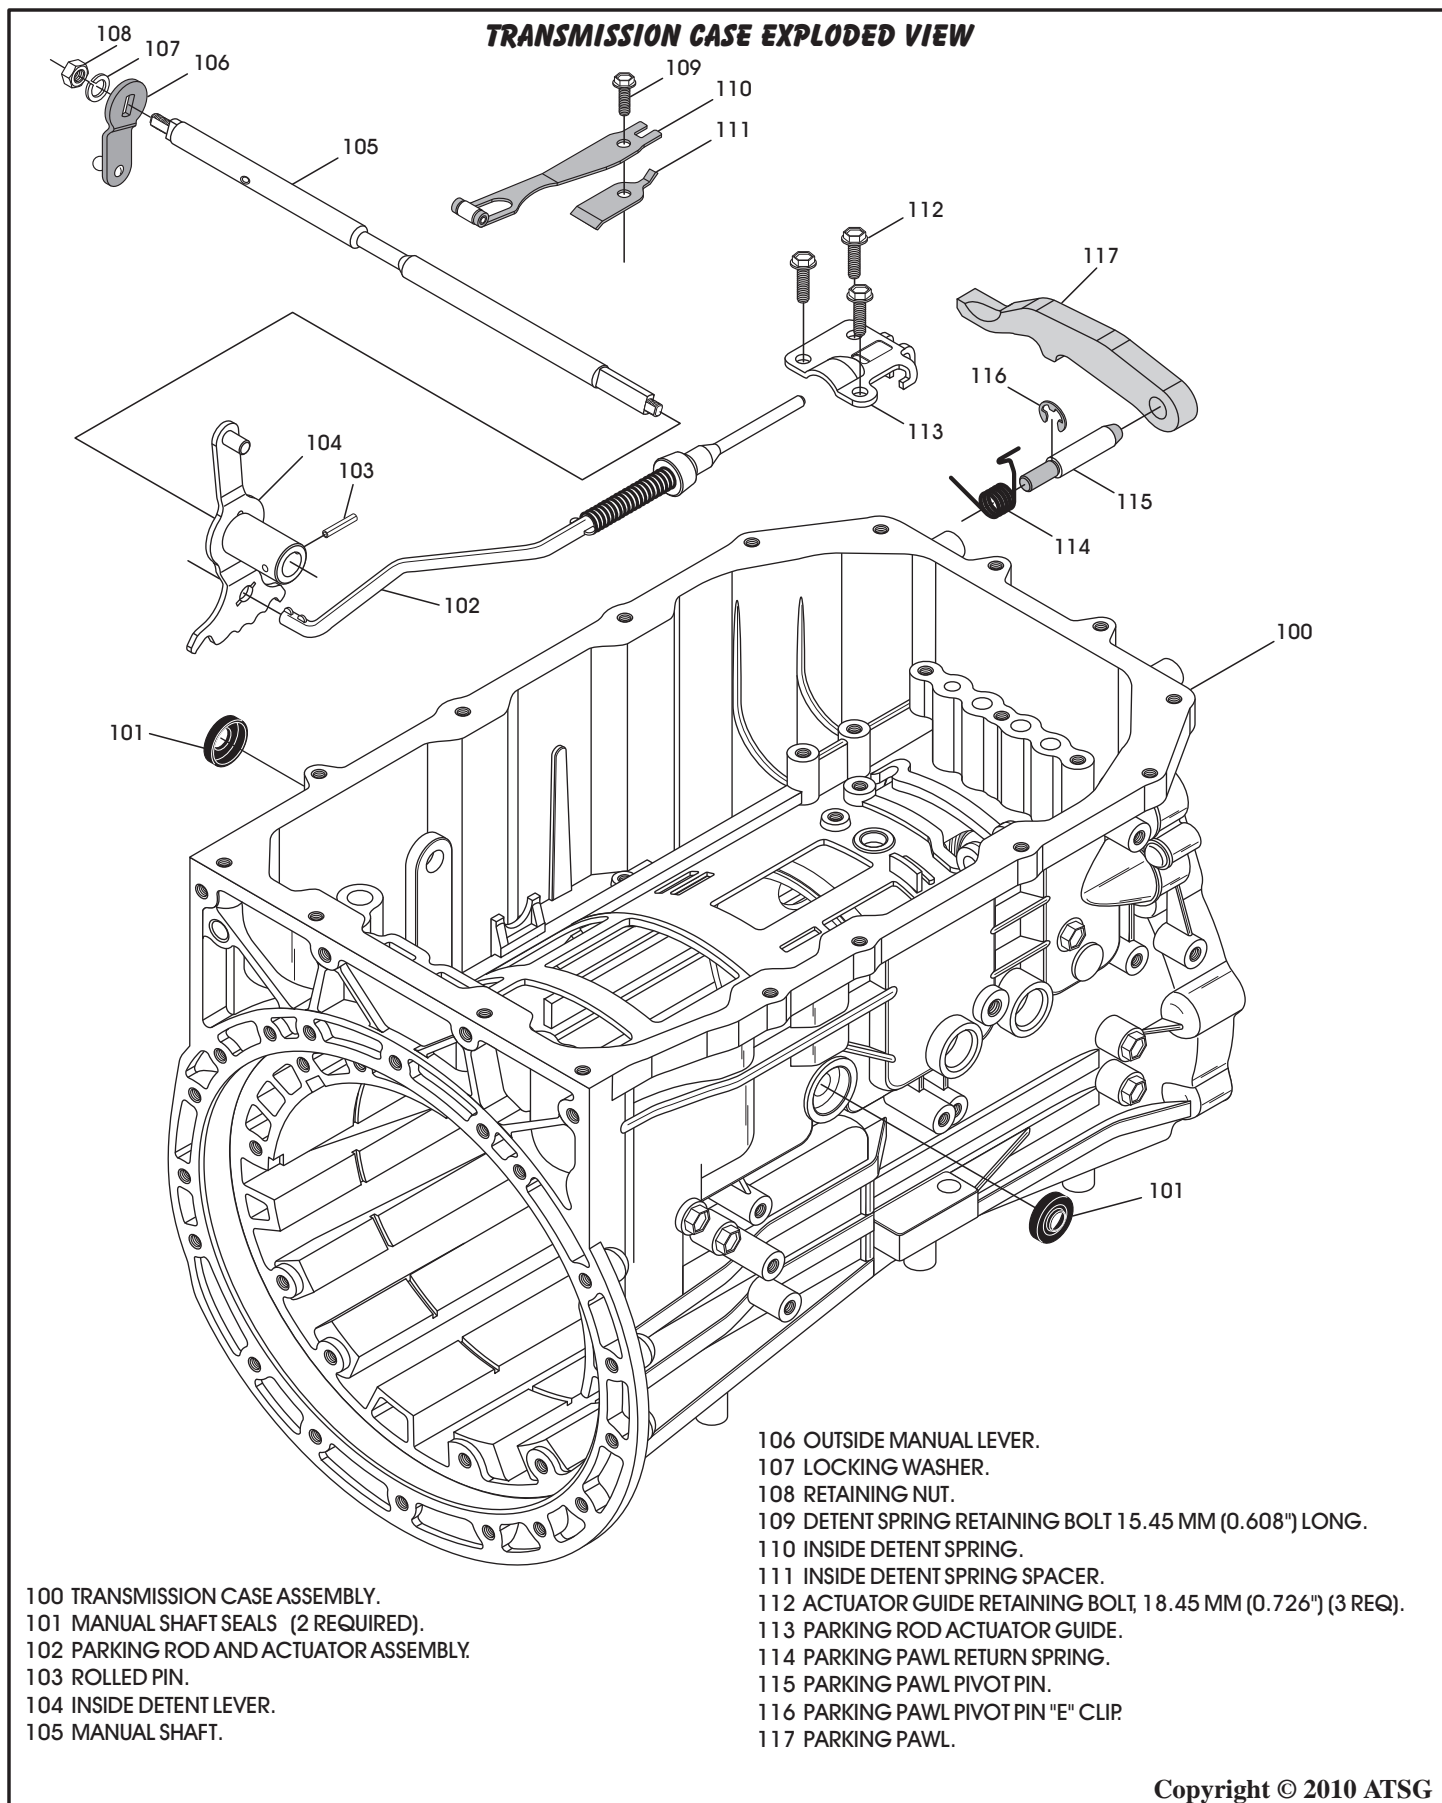

Figure 83
13. Rotate parking pawl down into position, against spring tension, and install inside detent lever and the park rod and actuator, as shown in Figure 83.
14. Lube with a small amount of Trans-Jel® and install the manual shaft through the case bore and inside detent lever, as shown in Figure 83.
15. Align and install the rolled pin through inside detent lever and the manual shaft, as shown in Figure 83.
16. Install the park rod guide on top of the park rod, as shown in Figure 83, and torque the three bolts to 28 N·m (20 ft.lb.).